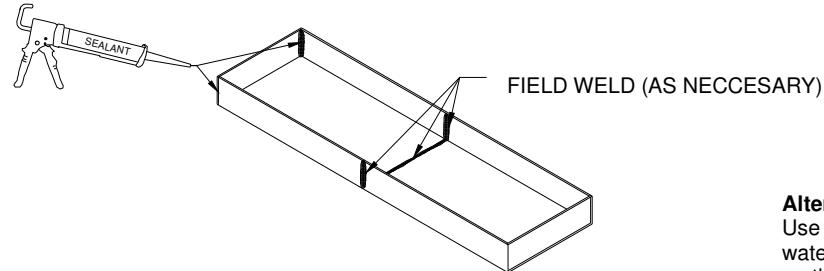

Figure 4:
- Apply sealant in all corners and seams of the pan (Figure 4).